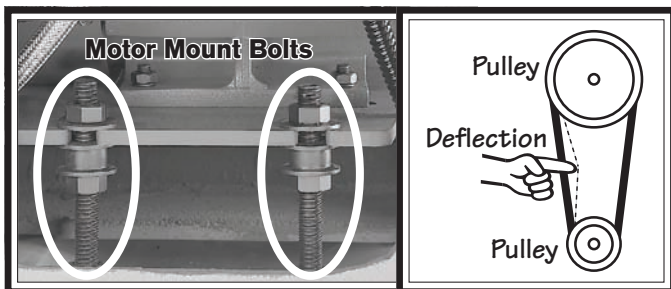

Figure 137. V-belt adjustment.
3. Turn the hex nuts on the motor mount bolts shown in **Figure 137** to move the motor mount plate up or down and adjust the V-belt tension. When correctly tensioned, each belt should have about 3/4" deflection when pressed firmly (see **Figure 137**).
3. Remove the motor cover shown in **Figure 137**.